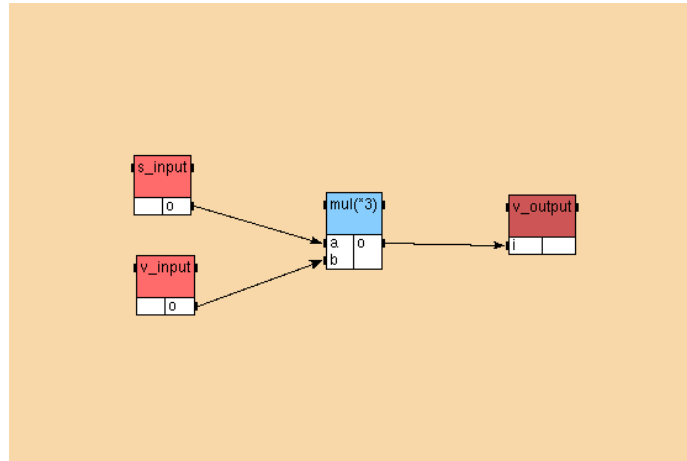

Figure 4.5: AlgorithmMain2 of the **Example 4**
- create dependences between the references in order to obtain the main algorithm (*cf.* figure 4.5);